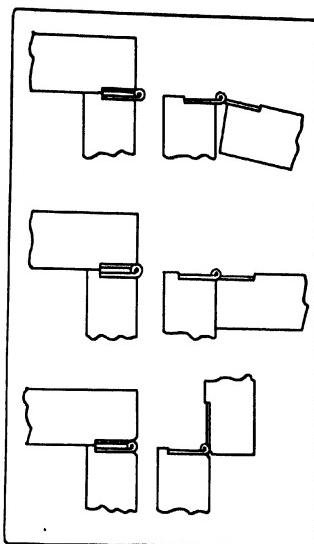

Fig. 235. Three Positions of Hinges.
A butt-hinge may be set in one of three positions, Fig. 235: (1) Where it is desired to have the hinge open as wide as possible, as in a door. Here the knuckle is set well out from the wood. (2)